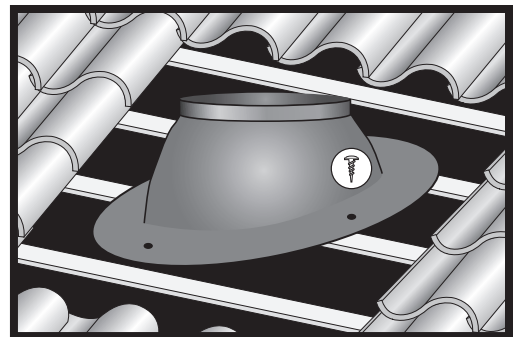

Figure 3
3. Caulk **underside** of flashing with the provided caulking material. Two concentric rings of caulking material is sufficient. Secure flashing with the Phillips head screws provided (see Figure 3).